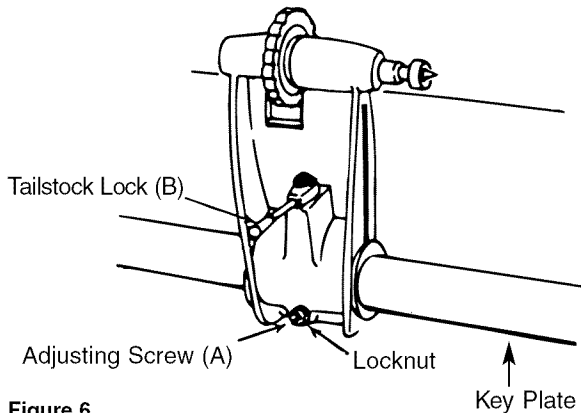
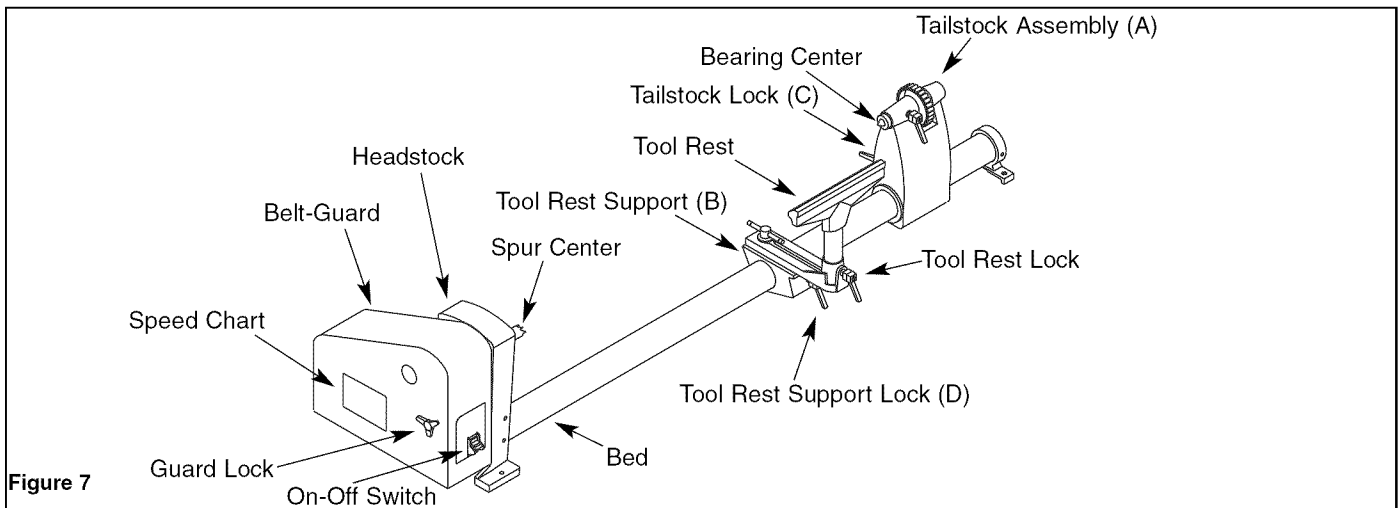

Figure 6
Figure 7
The tailstock supports the workpiece for spindle turning. To prevent excessive looseness or rocking, the tailstock contains an adjustment feature which bears against the keyplate on the underside of the bed. To adjust, refer to Figure 6 and proceed with the following:
Brass pins are required under the lock bolts of both the tailstock Figure 7, (A) and the tool rest support Figure 7, (B). The purpose of these brass pins is to securely grip onto the bed without scarring the bed.
- Locate the two brass pins in the bag of parts. Remove the lock bolt in each assembly. Refer to Figure 6, (B) and Figure 7, (D) for locations.